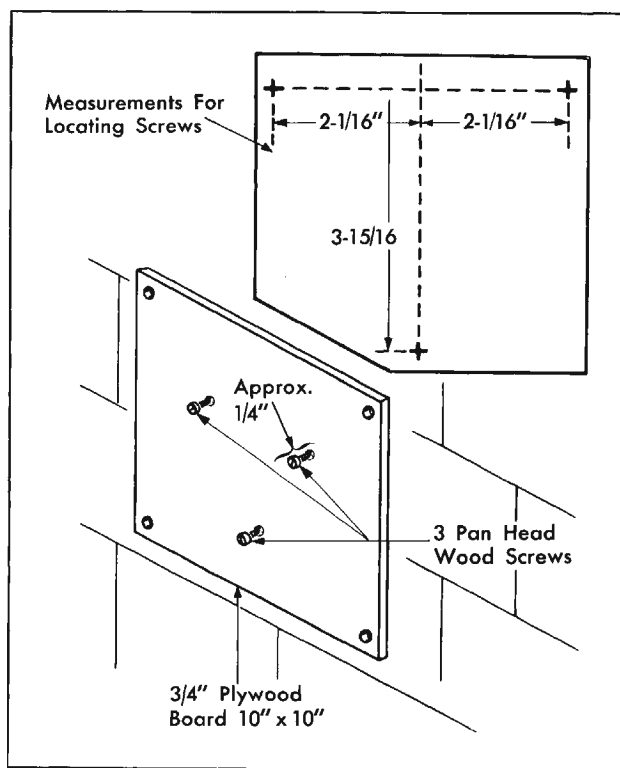

Fig. 14-72 Aiming Fixture
2. Install three 1/2" No. 6 pan head wood screws on the board as shown in Fig. 14-72. The screw heads should be approximately 1/4" from board.